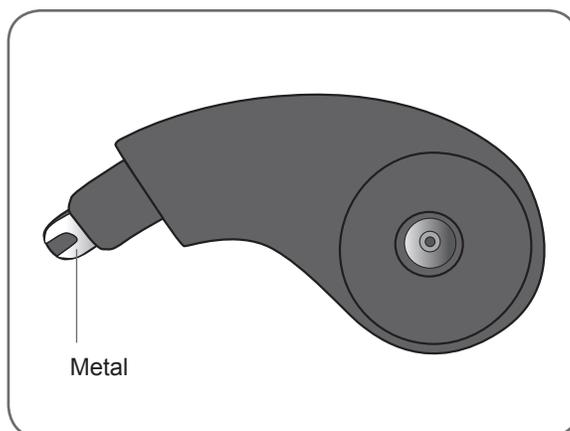

Figure 6-2: Thenar.
2. Pull back the flexible cover on the thenar to expose the metal. See Figure 6-2.